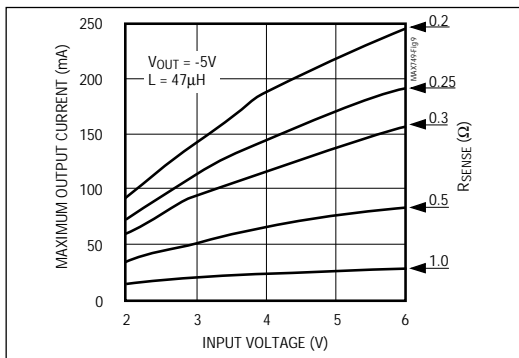

Figure 9a. Maximum Output Current vs. Input Voltage, $V_{OUT} = -5V$
To maximize efficiency and reduce the size and cost of the external components, minimize the peak current. However, since the output current is a function of the peak current (Figures 9a-9e), the limit should not be set too low.
- In Figures 9a-9e, locate the graph drawn for the appropriate output voltage (which is either the desired output voltage or, if that is not shown, the graph for the nearest voltage more negative than the desired output). On this graph find the curve for the highest R_{SENSE} (the lowest current limit) with an output current that is adequate **at the lowest input voltage**.
The theoretical design curves shown in Figures 9a-9e assume the minimum (worst-case) value for the current-limit comparator threshold. Having selected the current-sense resistor, the maximum current limit is given by $180mV/R_{SENSE}$. Use the maximum current-limit figure when choosing the transistor, coil, and diode.